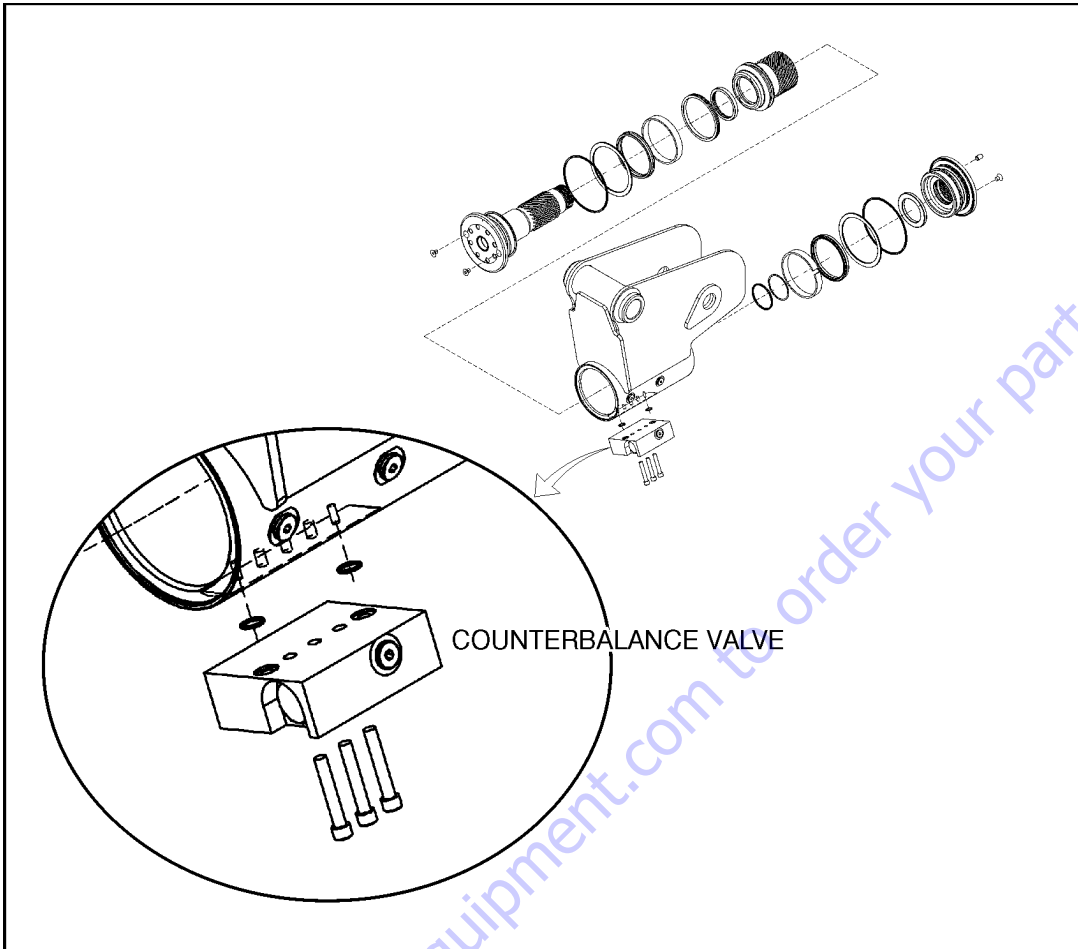

Figure 4-12. Rotator Counterbalance Valve
*Refer to Figure 4-12., Rotator Counterbalance Valve.*